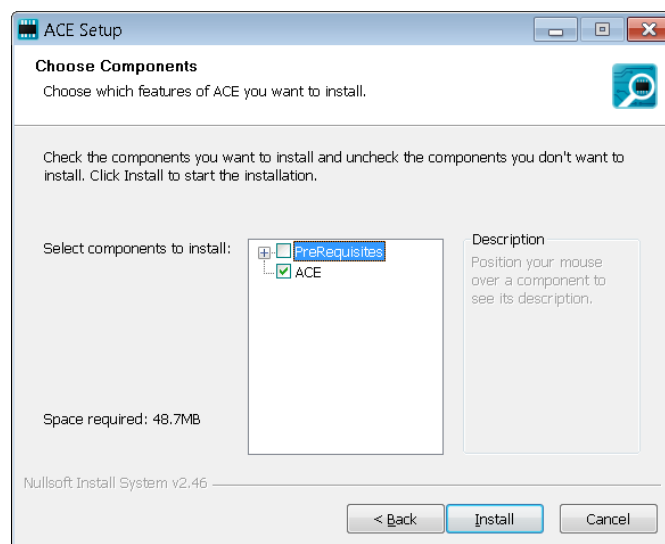

Figure 2-5: ACE Setup Wizard Step 5
Step 5: Choose the features of ACE you wish to install, Figure 2-5. The installer will initialize with dependencies that need to be installed selected. It is recommended to accept these settings, however dependencies can be selected for re-install if desired. All components that are selected by default are recommended, since ACE cannot be run without the required prerequisites. Even if selected, prerequisites will only be installed if the latest version is not found locally. Click “Next” to proceed to the next step in the wizard.